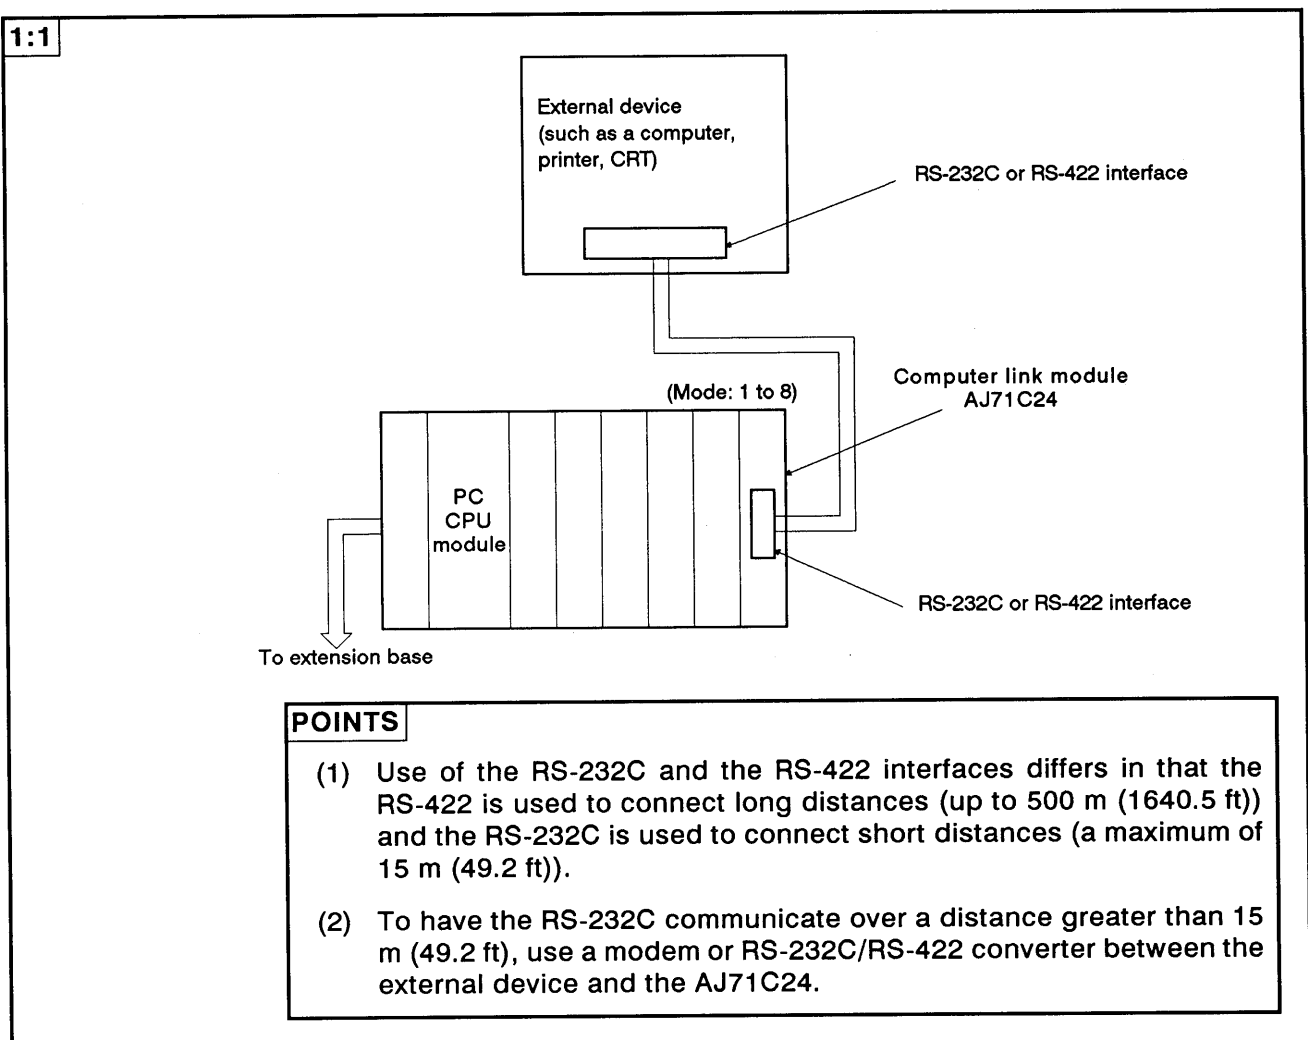

Fig. 2.2 System Configurations (I)
- (1) The system configuration for a 1 : 1 ratio of an external device (such as a computer) to a PC CPU is shown in Fig. 2.2 below.